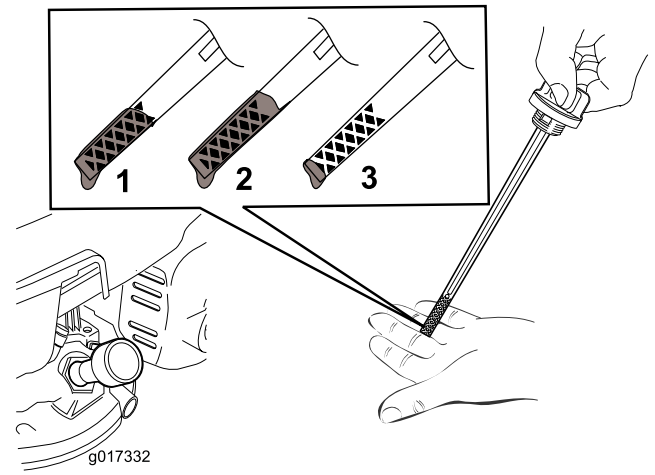

Figure 6
2. Remove the dipstick (Figure 6).
**Note:** Fill the engine crankcase with oil until the dipstick indicates that the engine oil level is correct as shown in Figure 6. If you overfill the engine with oil, remove the excess oil as directed in Changing the Engine Oil \(page 15\).